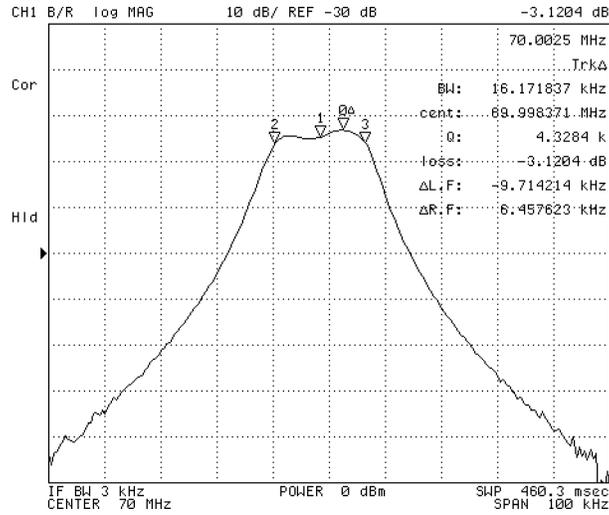

Figure 8-11. Bandwidth Measurement Using Width Function
As shown in Figure 8-11, a pair of sub-markers appear on both sides of the reference marker, being lowered by the specified number of levels; also, another sub-marker is displayed in the middle between the two sub-markers. The bandwidth (BW), center frequency of the bandwidth (cent), Q factor (Q), insertion loss (loss), and left and right hand bandwidth ($\Delta L.F$ and $\Delta R.F$) are displayed at the upper right corner of the grid.